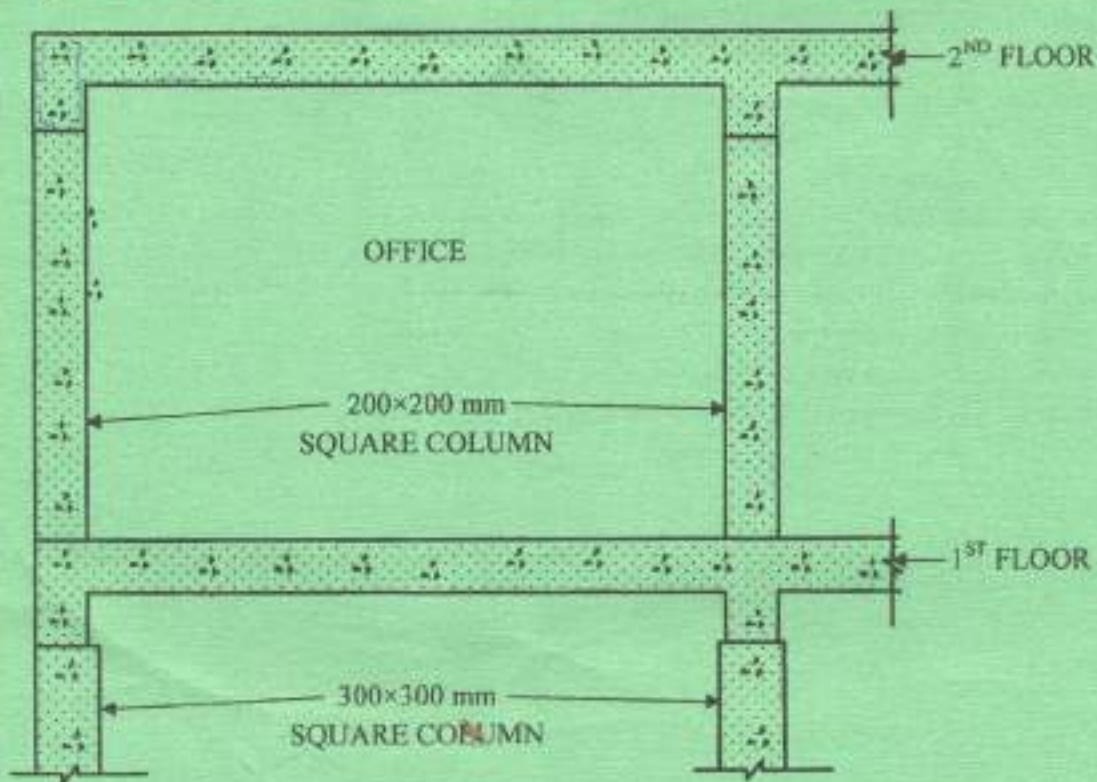

Fig. 1
- (b) Figure 1 shows the structural section of an office constructed of in-site concrete.